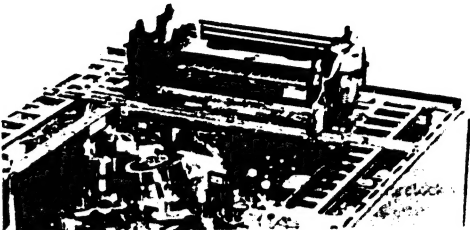

Fig. 2-6 Mechanism functions
- a) Place the cassette housing upside down on the rear bracket, as shown in Fig. 2-6. Engage the connectors of the cassette housing with the cassette housing board.